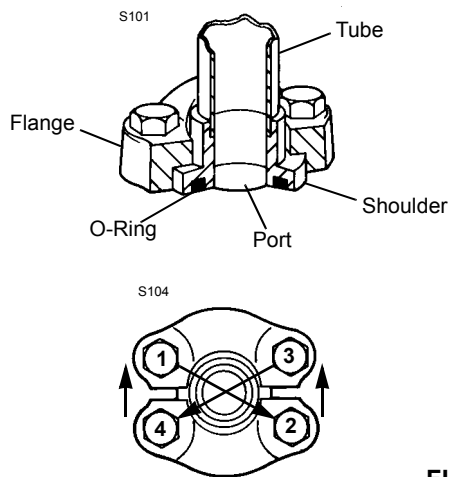

FIGURE 2-6
Lubricate and install O-ring in shoulder groove (see Figure 2-6).
3. Snug bolts in a diagonal manner (see Figure 2-6) to 1/3 of torque given in Table 2-6.